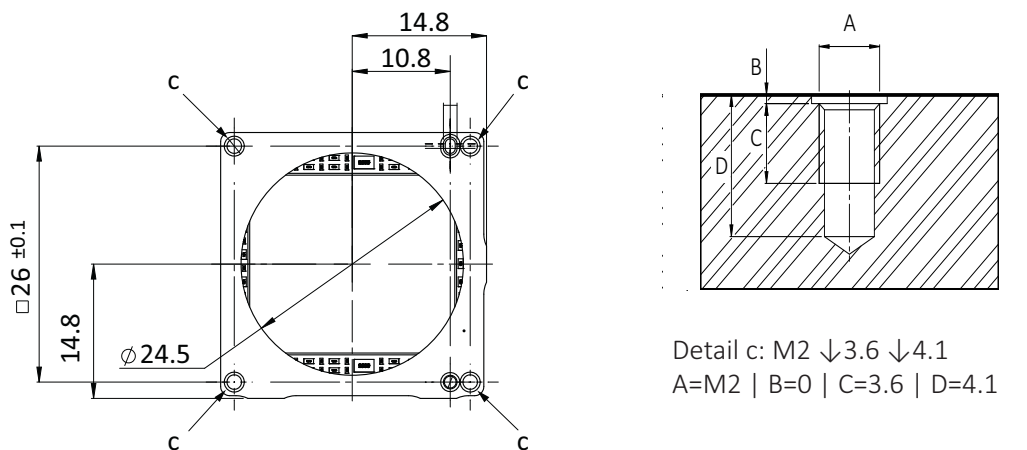

Figure 90: Mounting threads Alvium Frame
As shown in Figure 90, mount the camera to the base using suitable M2 screws for the 4 mounting threads: At 0.4 Nm maximum torque for a thread engagement (C) of 3.6 mm between screws and mounting threads.